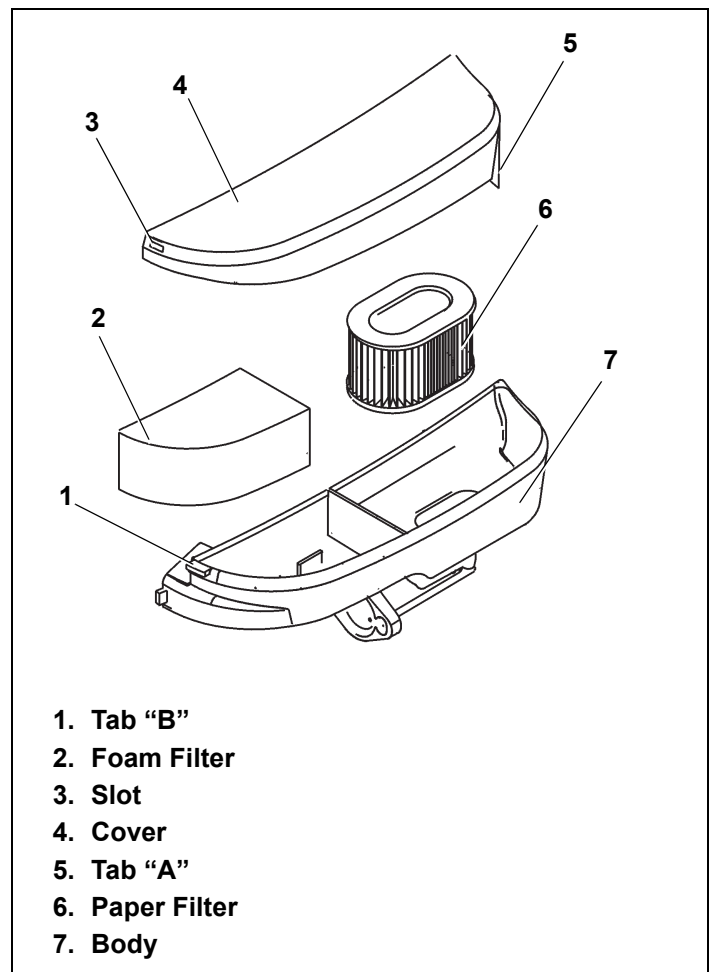

Figure 51. Air Cleaner Type "D" Assembly
1. Remove cover by pulling tab "A" away from body while lifting cover upward. See Figure 51.